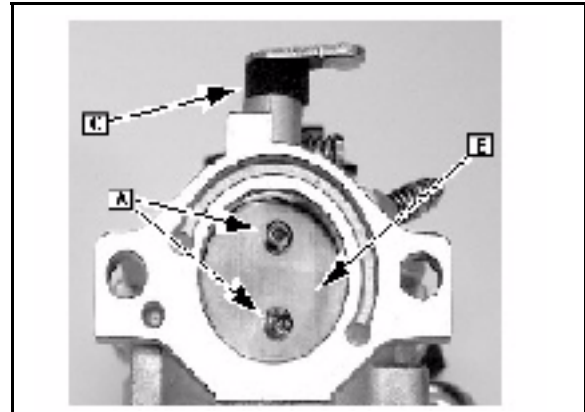

Fig. 136
- Remove two screws (A) and throttle plate (B) and pull the throttle shaft (C] Fig. 136) from the carburetor body.